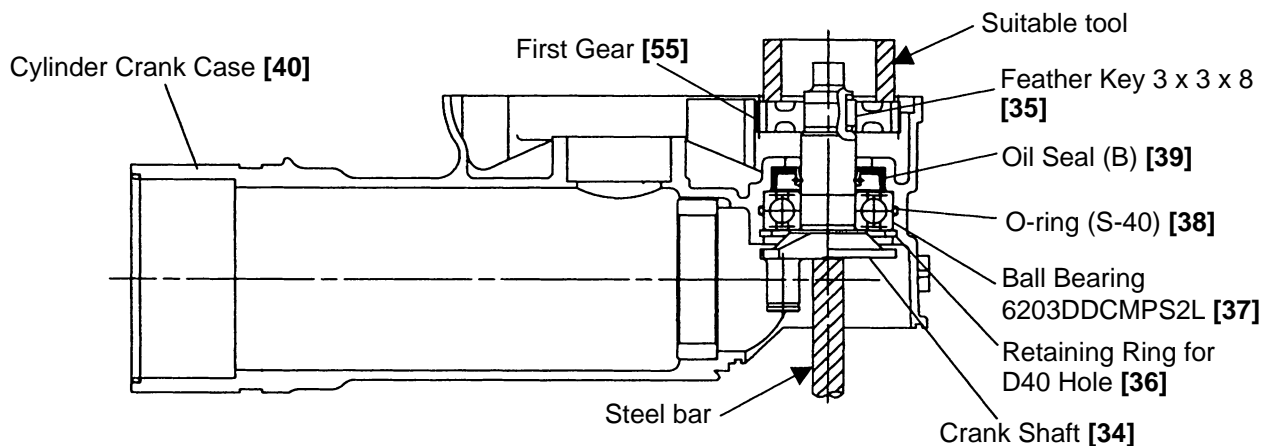

Fig. 14
(1) Reassembly of the first gear and the crank shaft
Press-fit Oil Seal (B) [39] into the Cylinder Crank Case [40] and mount O-ring (S-40) [38]. Press-fit the Ball Bearing 6203DDCMPS2L [37]. Mount the Retaining Ring for D40 Hole [36] using a retaining ring puller. Press-fit the Crank Shaft [34] into the Ball Bearing 6203DDCMPS2L [37]. Put the Feather Key 3 x 3 x 8 [35] in the groove of the Crank Shaft [34] and press-fit the First Gear [55] with a suitable tool while holding the flat portion of the Crank Shaft [34] with a steel bar. Before press-fitting, make sure that the Feather Key 3 x 3 x 8 [35] fits in the key groove of the First Gear [55] (Fig. 14).